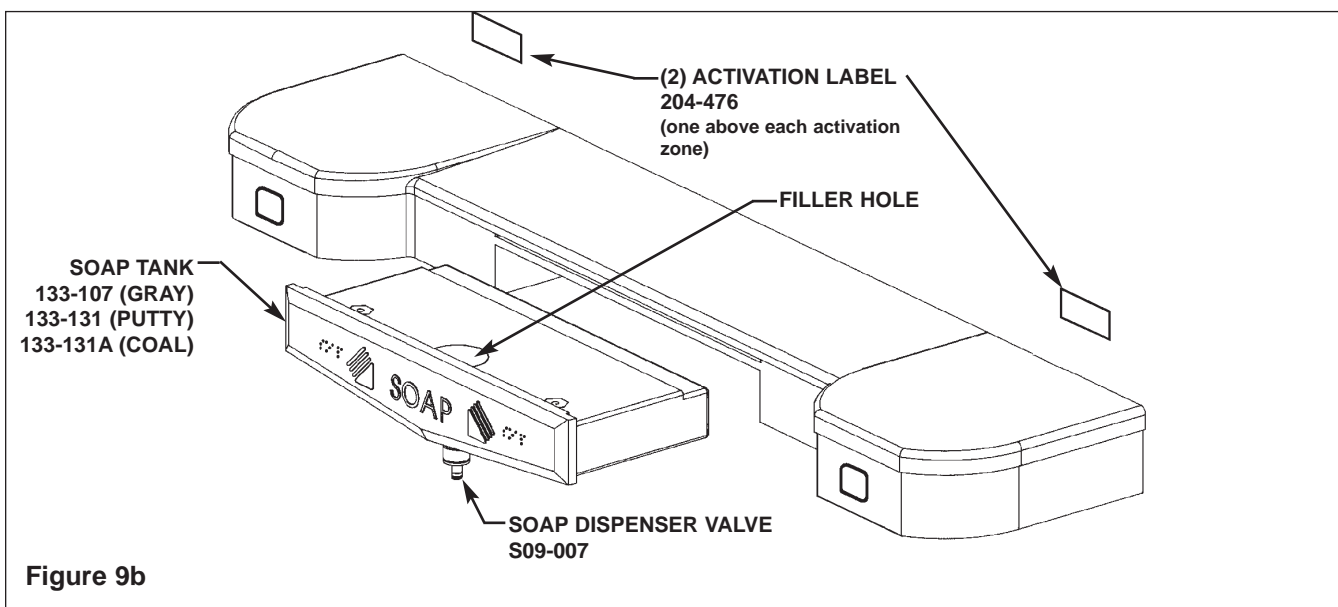

Figure 9b
3. Pour the soap into the soap tank's filler hole (see Figure 9b).